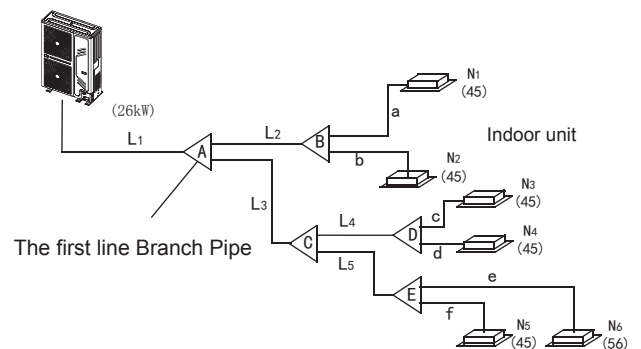

Fig.4-6
- Main pipe (Please refer to Fig.4-6 and Table 4-4)
In Fig.4-6, the main pipe L1, the outdoor unit capacity is 26kW, and check the Fig.4-6 to get the size of gas pipe/liquid pipe is $\Phi 22.2/\Phi 9.5$, and also the total equivalent length of liquid side and gas side pipes is $> 90m$, then check the Table 4-4 to get the size of gas pipe/liquid pipe is $\Phi 25.4/\Phi 9.5$, and according to the maximum value principle, it should apply the $\Phi 25.4/\Phi 9.5$.